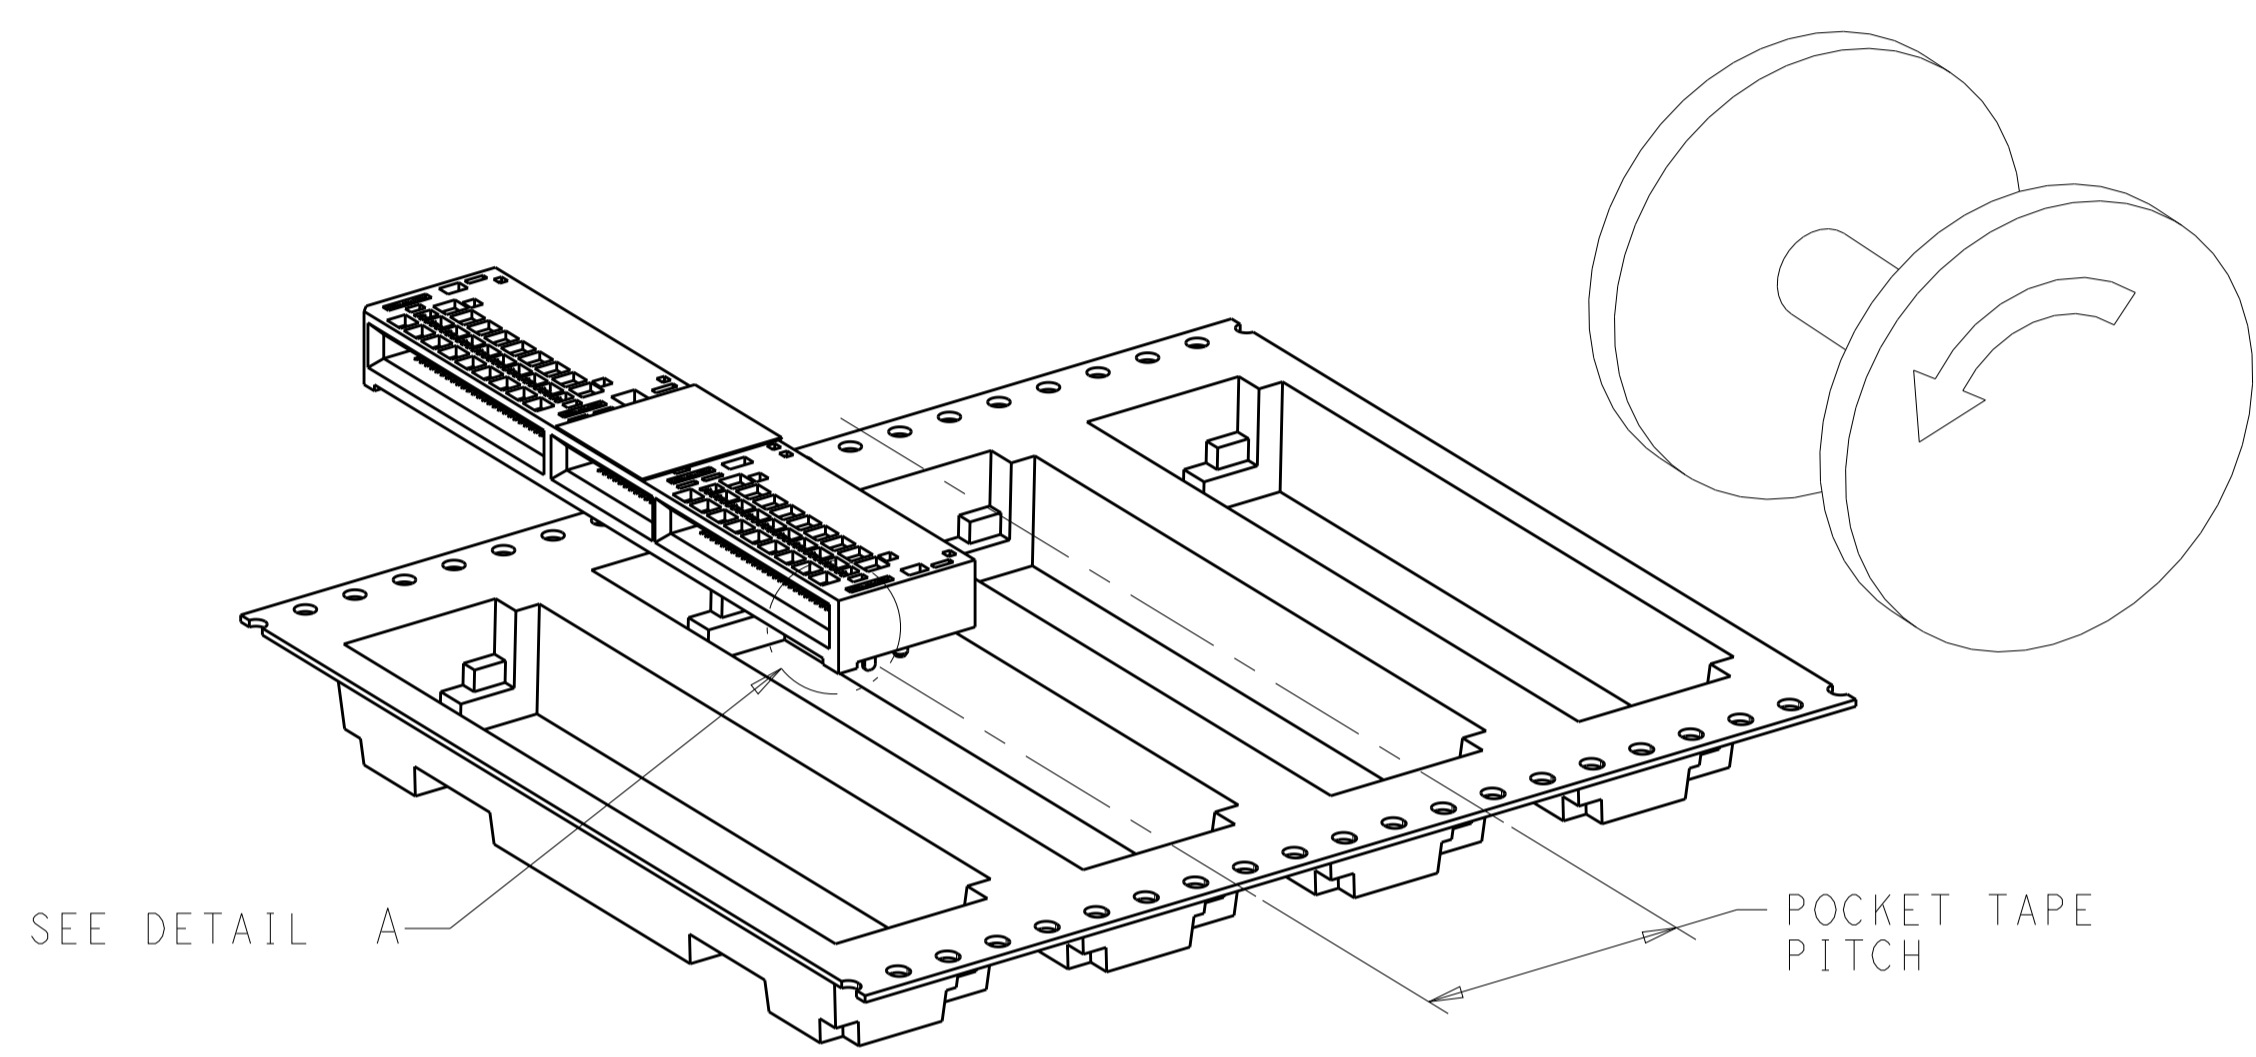

FIGURE 1
- 8 TAPE AND REEL PACKAGED FOR PICK AND PLACE SMT PROCESSING, SEE FIGURE 1. POCKET TAPE WIDTH = 72.